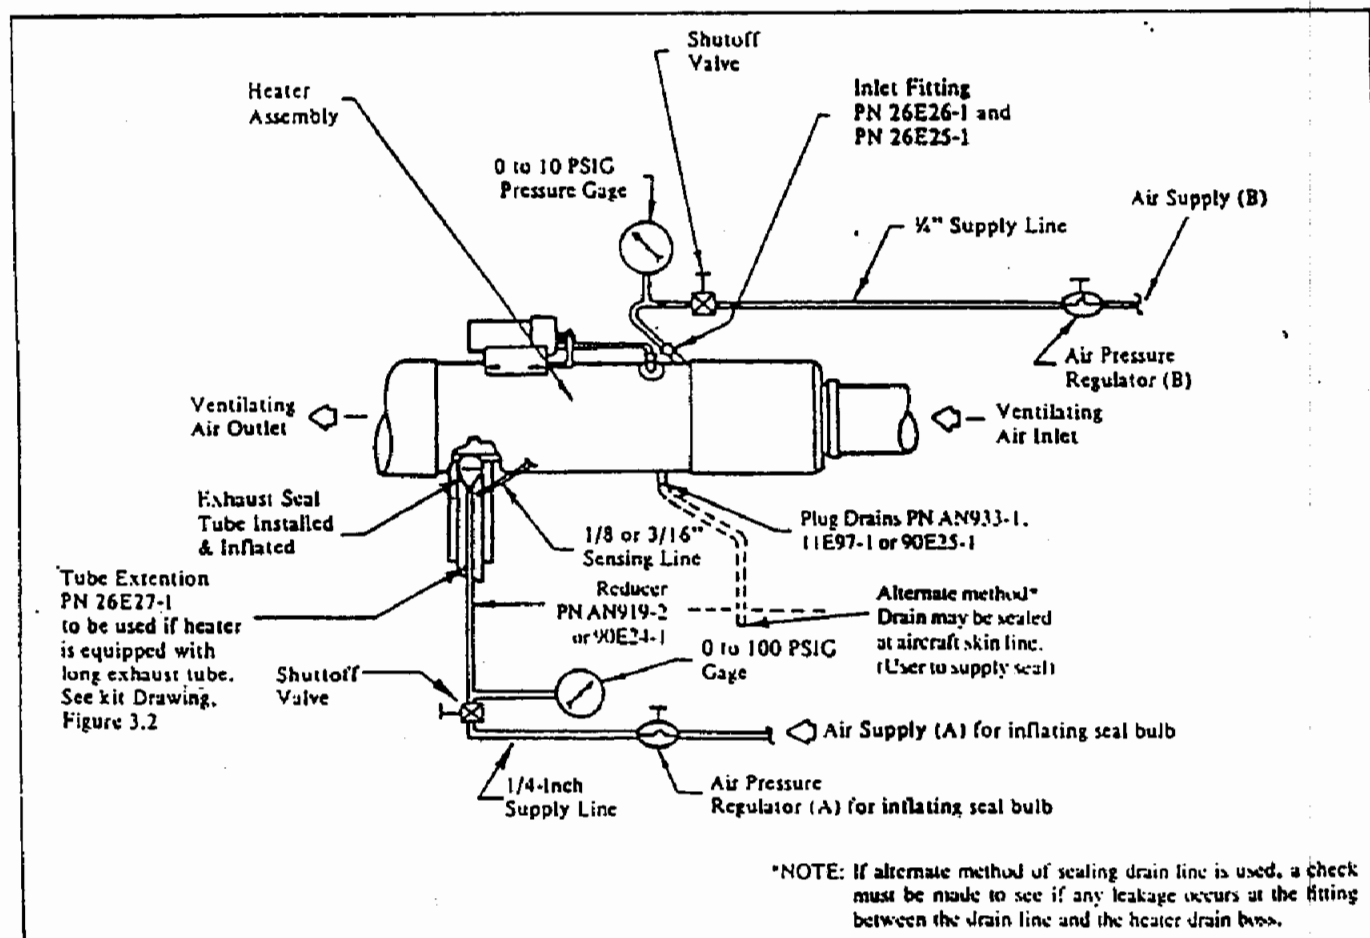
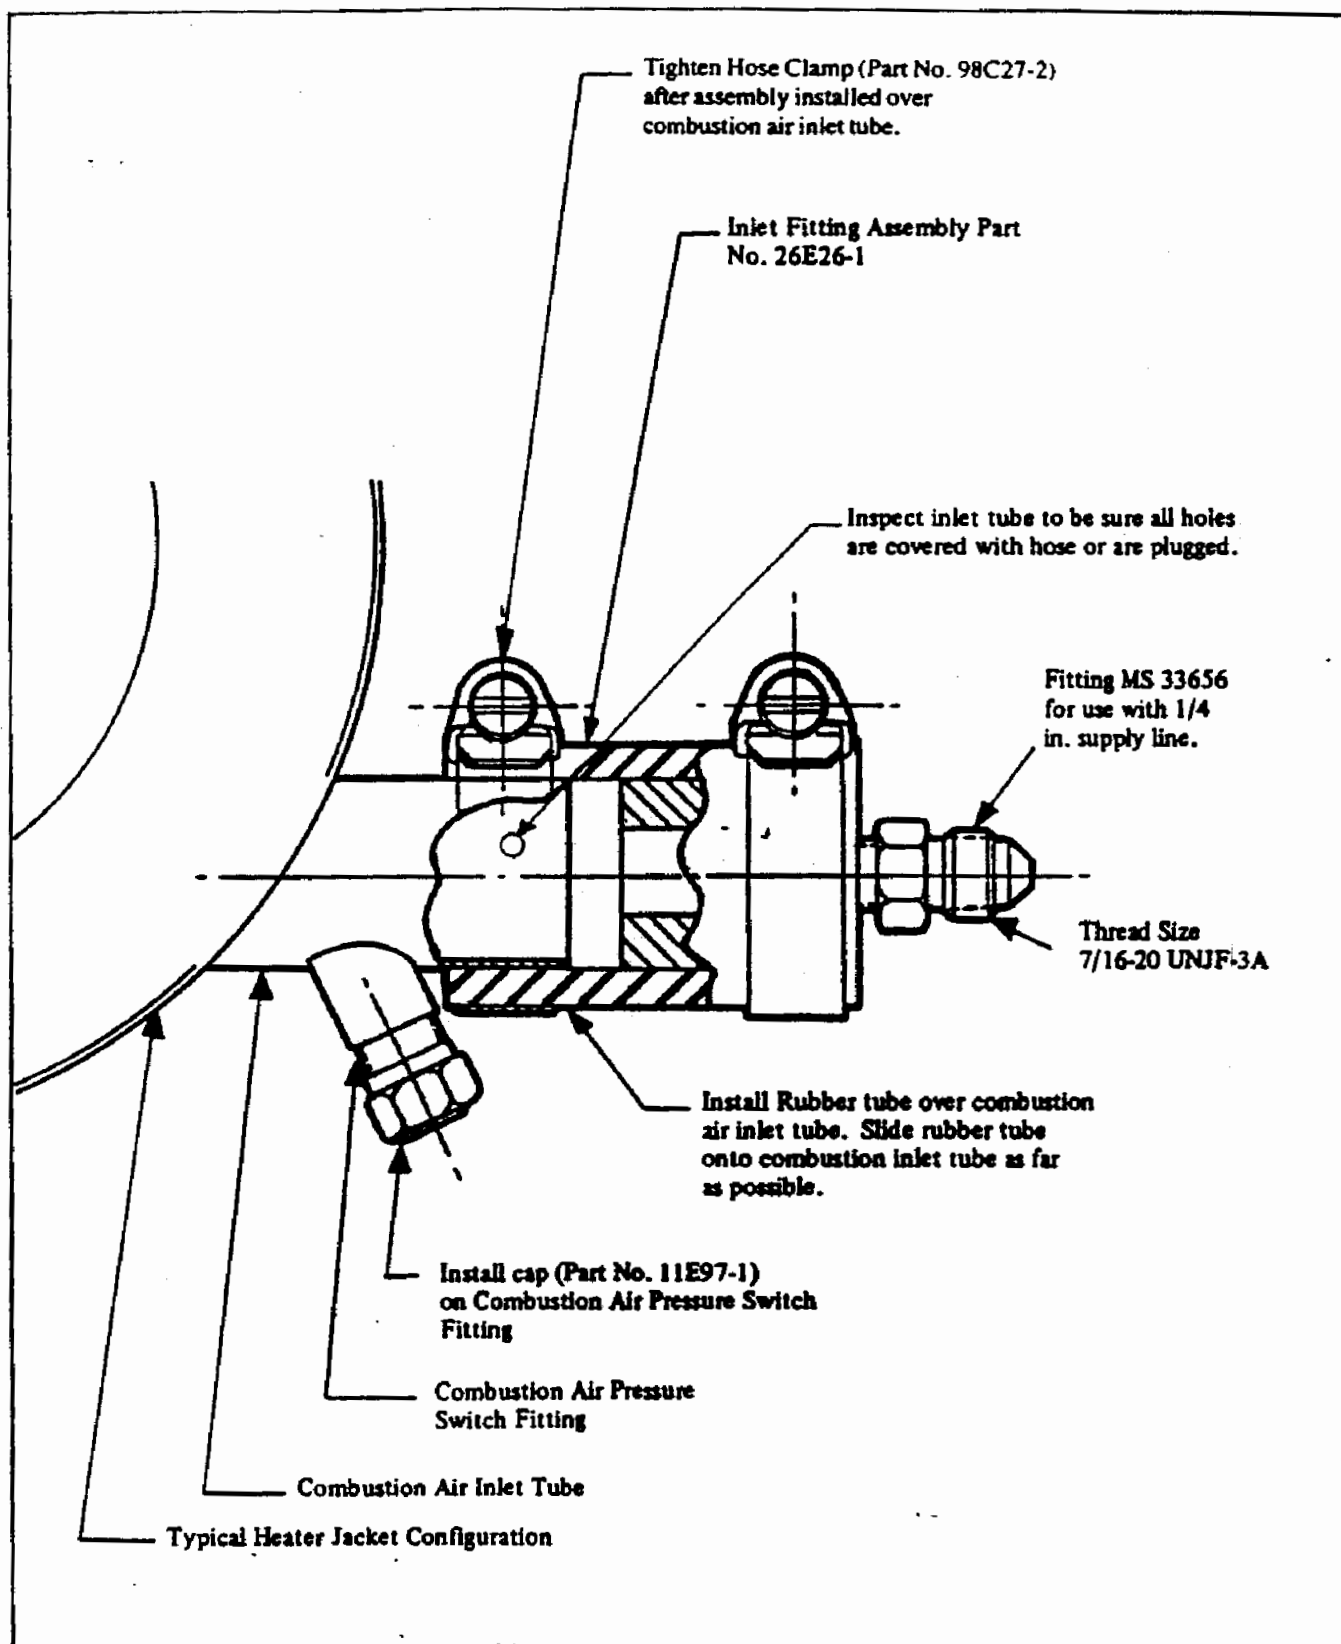
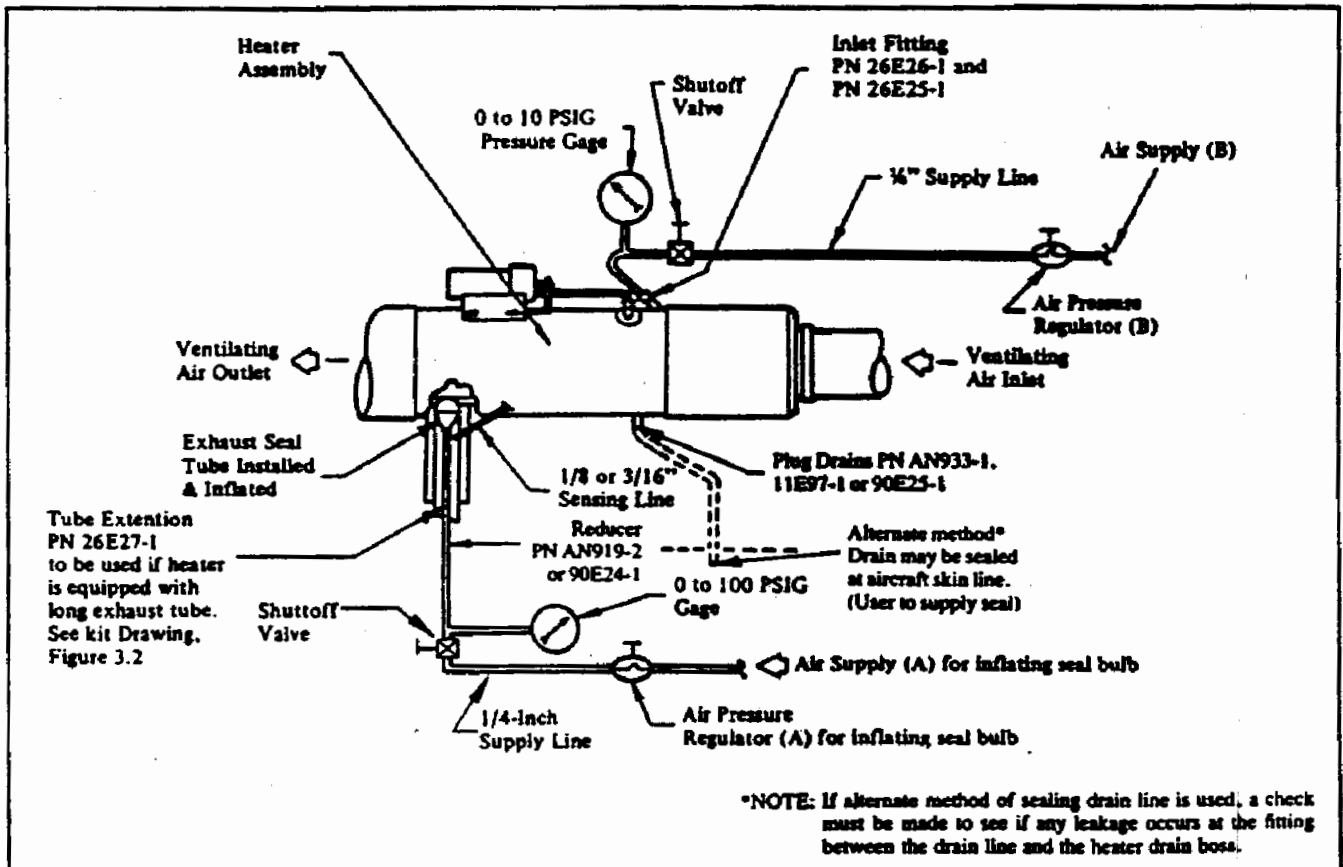

FIGURE 3-1 Test Set-Up Pressure Decay Inspection Test
FIGURE 3-3 Combustion Air Tube – Pressure Supply Assembly Installed
FIGURE 3-5 Test Set-Up Pressure Decay Test
2. 1/4-inch air supply line with 0-10 PSIG pressure gage, shutoff valve and air pressure regulator. (B). See Figure 3-1.
3. 1/4-inch air supply line with 0-100 PSIG pressure gage, shutoff valve and air pressure regulator. (A). See Figure 3-1.
To conduct the pressure decay test, the heater must first be sealed at all openings into the combustion chamber assembly. The openings into the combustion chamber include the combustion air inlet tube, combustion air pressure switch differential sensing lines, fuel drain, and the exhaust tube. (See Figure 3-1) Loosen and remove all flex tubing, elbows and adapter, that may be mounted between the combustion air blower and the heater.
Install and tighten in place (as shown on Figure 3-3) the Combustion Air Tube Pressure Supply Assembly (Part No. 26E26-1) using the hose clamps (Part No. 26E25-1). Attach 1/4-inch supply line as shown in Figure 3-1, or 3-5. Install and tighten cap (Part No. 11E97-1) on fitting where combustion air pressure switch was mounted. (See Figure 3-2 and 3-3)
3.3.7 Attach the correct size exhaust seal tube to the pressure supply system as shown in Figure 3-5. For longer exhaust tubes, the Tube-Extension Part No. 26E27-1 will be required for the seal to be fully inserted.
After the seal is properly inserted into the exhaust tube, and while holding it in place, slowly inflate the seal to 70±5 psig pressure using the regulated supply air (A) as shown in Figure 3-5. When properly installed and inflated, the seal will hold itself in place. After seal is properly installed and pressurized, close the shutoff valve on the line as shown in Figure 3-5, to check for leakage from the bulb.
3.3.8 Attach a supply line to the fitting on the Combustion Air Inlet Seal Fixture. Slowly apply 2 or 3 psig of air pressure from the regulator (B) as shown in test set-up diagram to check that exhaust seal is leaktight. Pressure in the exhaust seal, air supply (A), may be increased to 95 psi max. if required to achieve leaktight seal.
Apply 6.0±.5 psig to the combustion chamber through the air pressure supply regulator (B) as shown on the test set-up diagram. Figure 3-5.
(Figure 3-5 is identical to Figure 3-1 and is repeated here for convenience to reader)